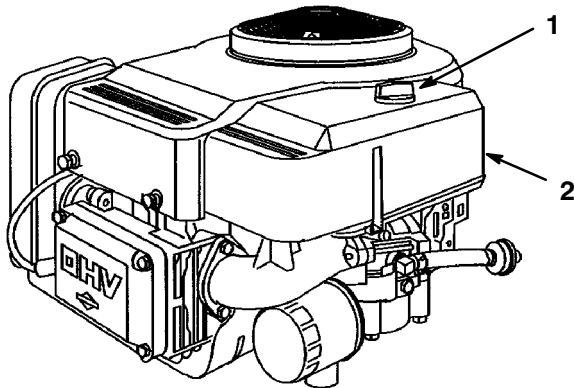

Figure 29
3. Clean around the air cleaner to prevent dirt from getting into the engine and causing damage. Unscrew the knob and remove the air cleaner cover (Fig. 29).
3. Install the air cleaner cover and knob (Fig. 29). Tighten the knob snugly.